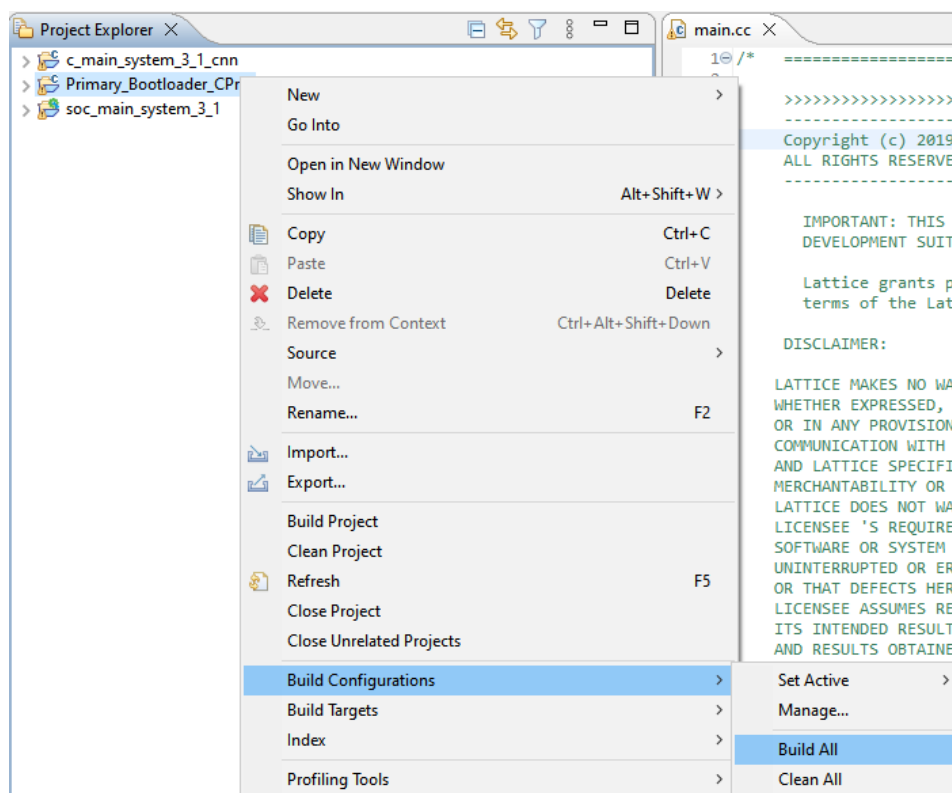

Figure C.28. Build All Configurations
19. After cleaning, right-click on the *Primary_Bootloader_Cproj* and select the option as shown in Figure C.28 to build the project.